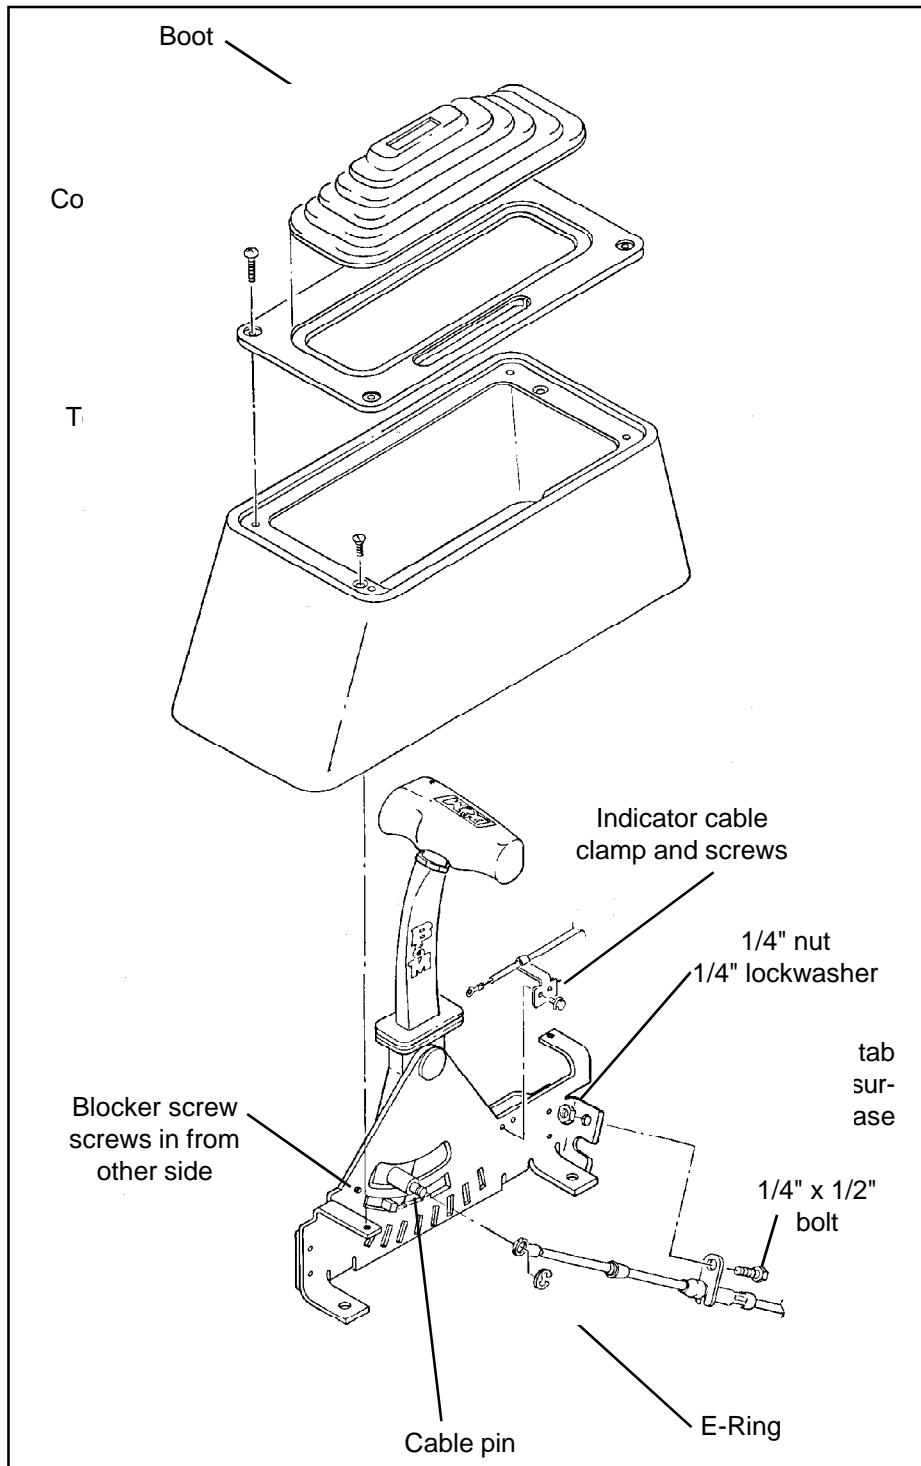

Figure 1
STEP 2. If the shifter is being used on a GM four speed automatic transmission the blocker screw shown in **Figure 1** should be removed. For all three speed automatic transmissions as well as the Ford AOD four speed automatic transmission the blocker screw should remain in place.
STEP 7. Install the cable on the shifter as shown in Figure 1. The cable attachment tab should be bolted to the outside surface of the shifter base using a 1/4" x 1/2" hex bolt, lock washer and nut. Install the E-Ring that secures the cable to the cable pin.
the indicator cable to the shifter as shown in Figures 1 and 2. The indicator cable is secured to the cable pin by a supplied small E-Ring.